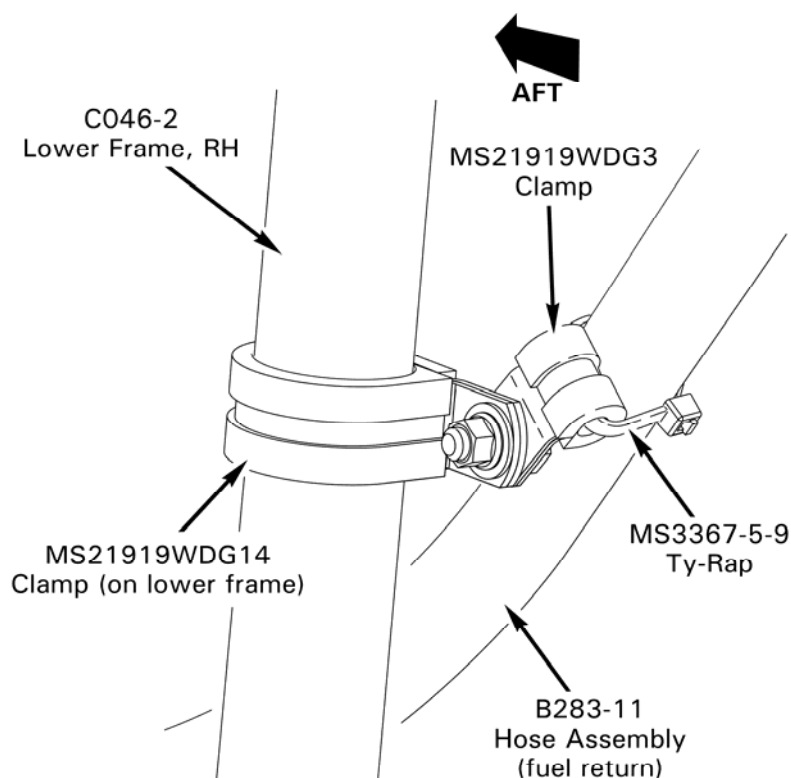

FIGURE 2
7. Refer to Figure 2. Attach MS21919WDG3 clamp to MS21919WDG14 clamp using retained hardware, with fastener head toward hose as shown. Torque nut to 37 in.-lb. Remove temporary safety wire, if used.